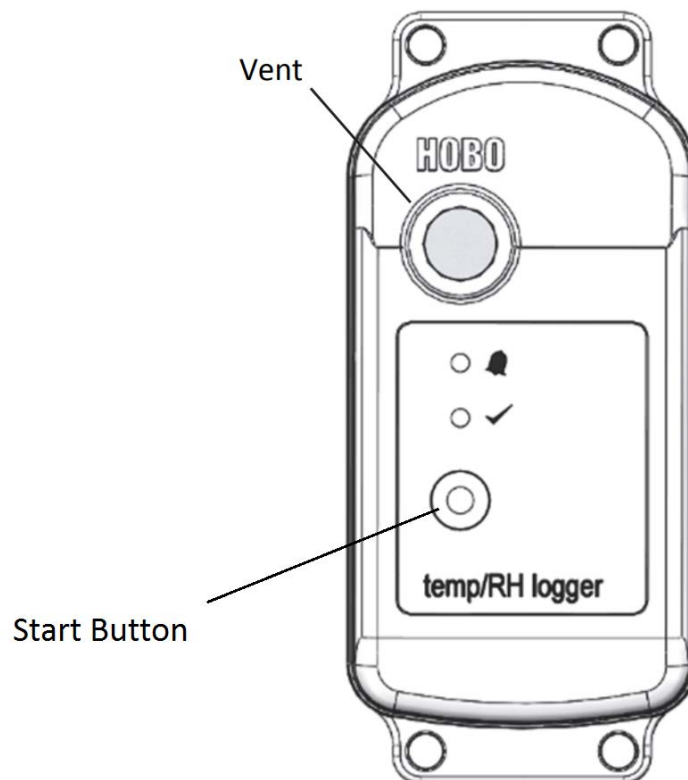

Figure A.7.1: The MX2301 Data Logger diagram.
2. Press the start button as shown on Figure A.7.1. This will cause the alarm and status LEDs to blink, indicating that the MX2301 Data Logger has been turned on.